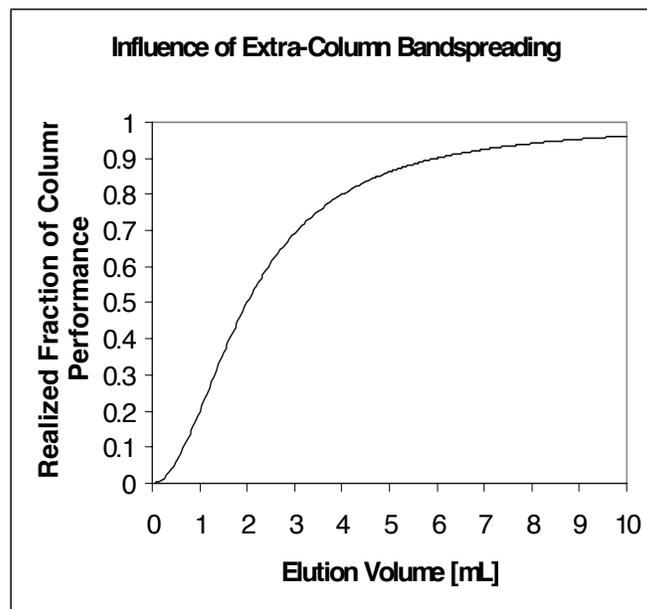

Figure 1: Influence of extra-column bandspreading on column performance
A.: Yes. Let us look at figure 1. In this figure, I have plotted the relationship between the plate-count ratio (equation 3) and the retention volume. I have assumed for this calculation that the column plate-count is 10,000, and that the extra-column bandspreading (measured as the peak width by the tangent method) is 80 μL . One can see that the true plate-count of the column is never reached, even at an elution volume of 10 mL. An elution volume of 10 mL translates to roughly a k' of 4 for a 4.6 mm x 150 mm column. The graph also shows that at an elution volume of about 2 mL, which is roughly the point of elution of an unretained peak on this column, the real plate-count is only half of the maximally achievable plate-count.